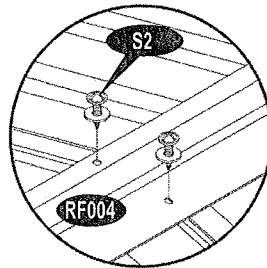

Fig. 2
9. Line up the holes of roof flashing (RF004) to the roof panels and secure with (S2) screws with washer. See fig. 2.